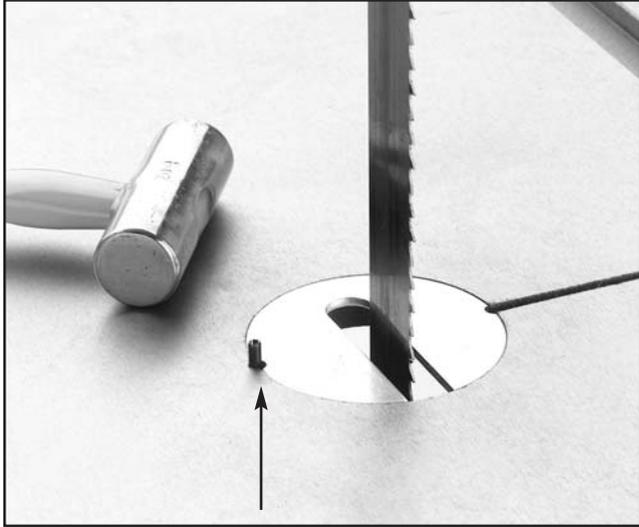

Figure 22. Inserting roll pin in table.
- Install the table insert in the center of the table. Rotate the table insert so the notch in the insert lines up with the notch in the table to form a small hole. Locate the roll pin from your hardware bags and tap it into this small hole as shown in **Figure 22**.